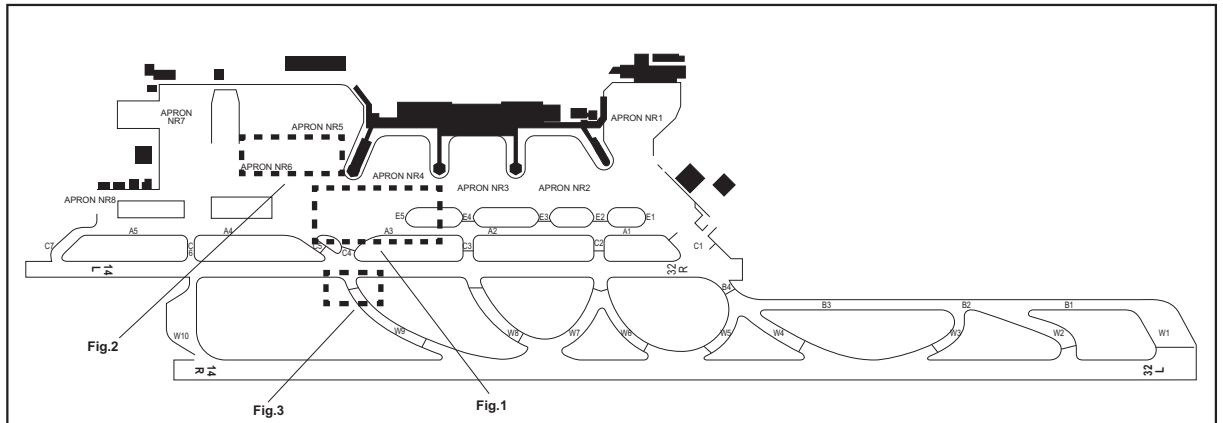
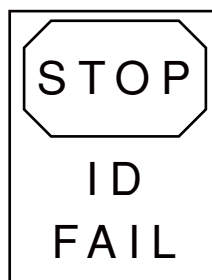

Fig.1
Fig.3
- (1) An operator on ground shall input the aircraft type into the system before the aircraft approaches the parking stand. Upon accepting the input, the system carries out internal calibration, starts the laser scanner simultaneously, and indicates the aircraft type according to the input. The system then will begin to indicate yellow lead-in arrows scrolling upwards prompting the aircraft to proceed. (Fig.1, Fig.2)
- (2) When the laser scanner detects the approaching aircraft, the display screen will indicate the aircraft type, a "T" bar, and a lead-in upward arrow in yellow.
- (3) At least until the approaching aircraft arrives at a point 15 meters before the stopping position, the system will identify the aircraft type and will compare with the previously input aircraft type. If these data match, the system will continue its operation. If they do not match, the display screen will indicate "STOP" with a red border, and "ID FAIL" simultaneously. (Fig.3)